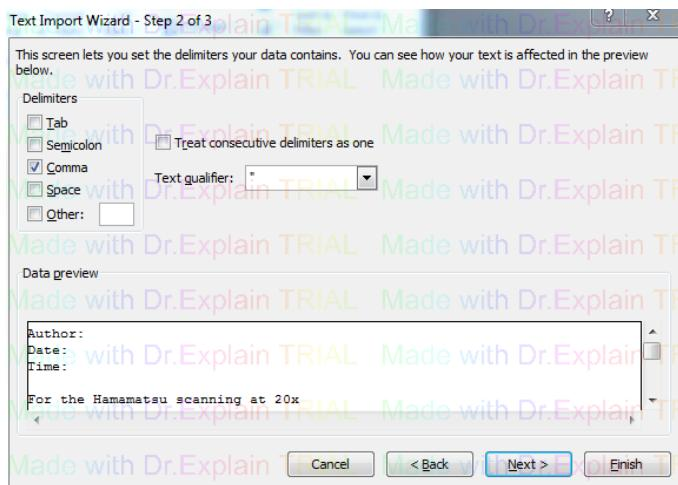

Figure 1
6. Find "Delimiters", and select "Comma" in this case (*Figure 1*)